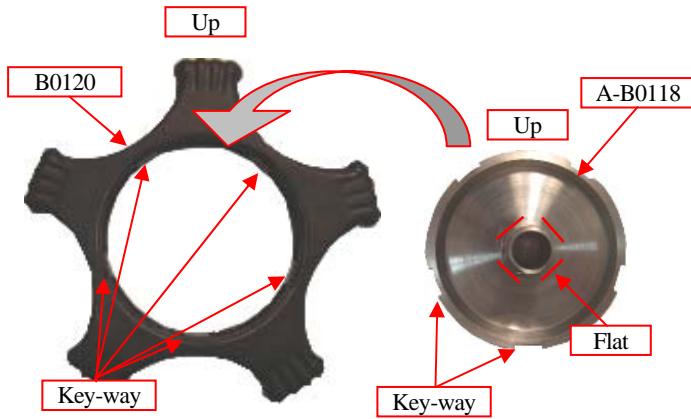

Fig.7-1-6
- 1) Apply G-M17 to O-Ring (B0119) on A-B0118 and engage B0120 to A-B0118 proper direction as shown in Fig.7-1-6.